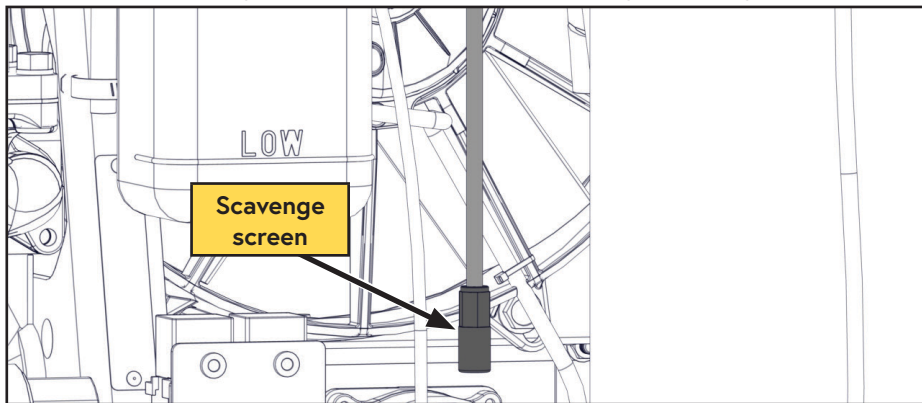

Figure 35 — Scavenge screen
- ☐ Ensure the scavenge screen is in place on the scavenge tube (Figure 35).